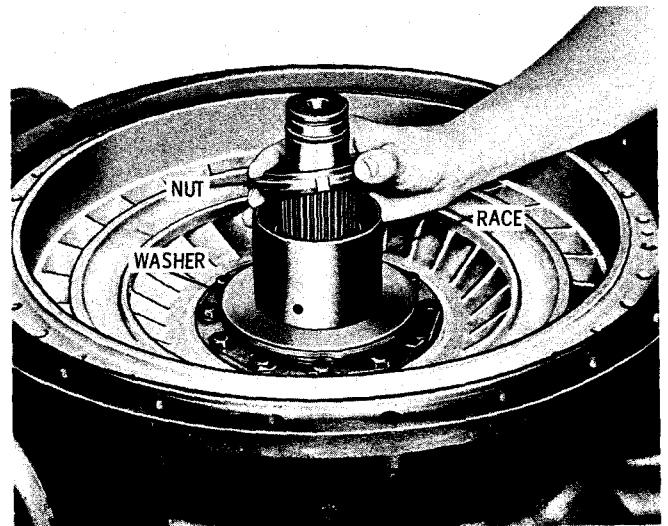

Fig. 7-80. Installing freewheel roller race spanner nut (variable-capacity, 3-element converter)
(9) Install the thrust washer onto the retainer (fig. 7-80). Install the spanner nut onto the